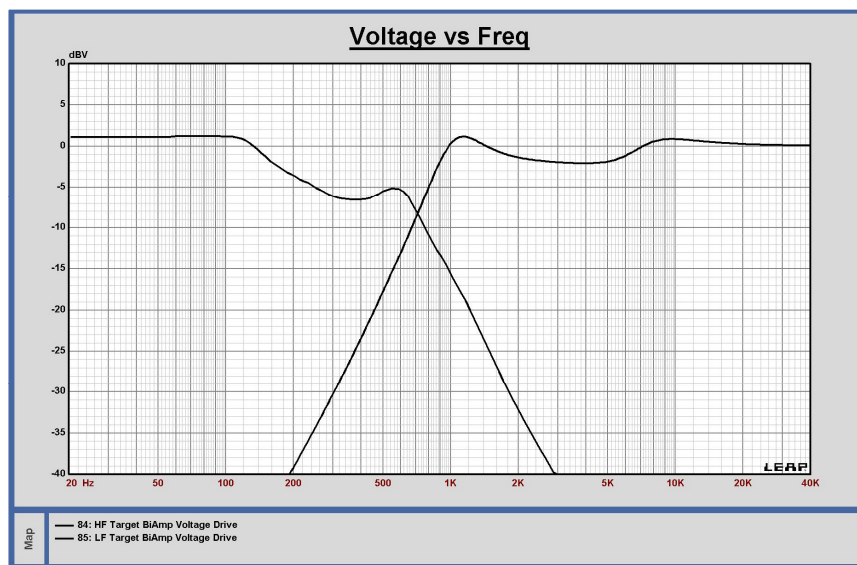

Figure 12 – Low pass and high pass curves for required for the use of an external dividing network to Bi-Amplify the K2.S9900 system.
**Bi-Amp** - It is possible to operate the system using an external low level dividing. In this mode, the Low and High Frequency crossovers are totally bypassed. Level adjustment and internal equalization remain on the High Frequency section. Figure 12 shows the low frequency and high frequency voltage drive functions necessary to properly Bi-Amplify a S9900 system using an external dividing network and two amplifiers channels. Neither the low pass nor high pass drive is a standard Butterworth alignment or, for that matter, any standard alignment. The provided drive curves were derived using the internal passive network and resulting acoustic low pass and high pass shapes. Duplicating these shapes will result in the same frequency response and directivity pattern as a passive S9900. The curves shown will be extremely difficult to replicate with standard external crossovers so JBL recommends against bi-amp operation unless the user is very familiar with electronic crossover/EQ equipment.